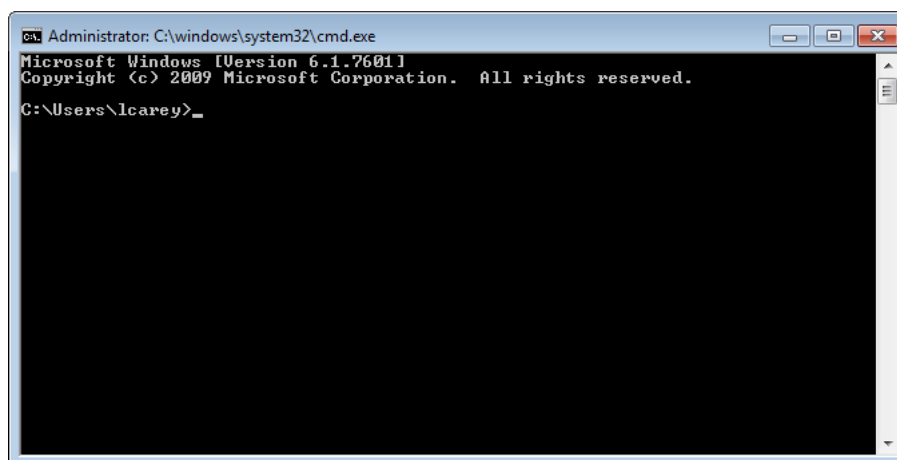

FIG. 40 Windows command interpreter (Cmd.exe)
2. Type **cmd** in the *Open* field and click **OK** to open an instance of the Windows command interpreter - "Cmd.exe" (FIG. 40):